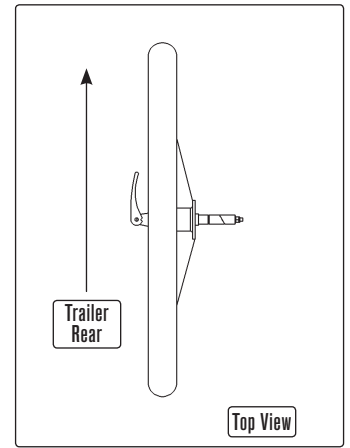

FIGURE 4: Quick release lever in locked "closed" position
2. Close quick release lever, with lever aimed at trailer rear. A properly adjusted quick release lever should leave an imprint on your palm when the lever is rotated to the closed position. **FIGURE 4**